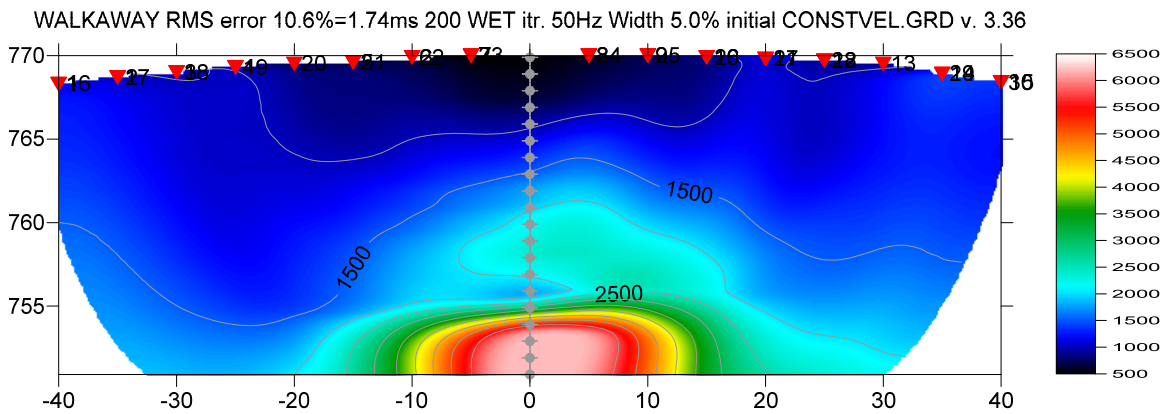

Fig. 13 : 200 WET iterations with cell size forced to 0.2m in *Header|Profile* (Fig. 2). Compare with Fig. 10 obtained with default cell size 0.0914m.
- click button *Start tomography processing* and confirm prompts to obtain Fig. 13 and 14 after about one minute. Fig. 13 is practically identical to Fig. 10.
When forcing the grid cell size to 0.2m instead of using the default cell size of 0.0914m we obtained Fig. 13 in just about 1 minute i.e. four times faster than Fig. 10.